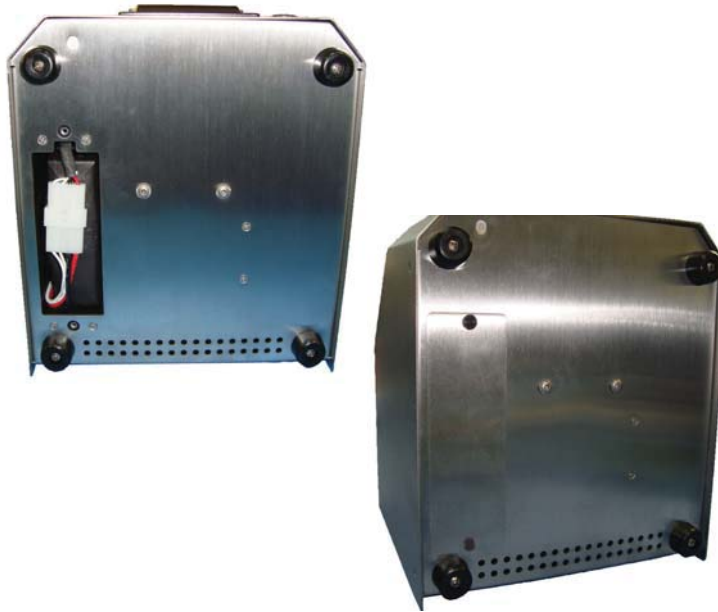

Figure 3-3 Connect Terminals and Replace Door
2. Connect the terminals and fold the wires against the battery. Replace the battery door and tighten the thumbscrews. See Figure 3-3.